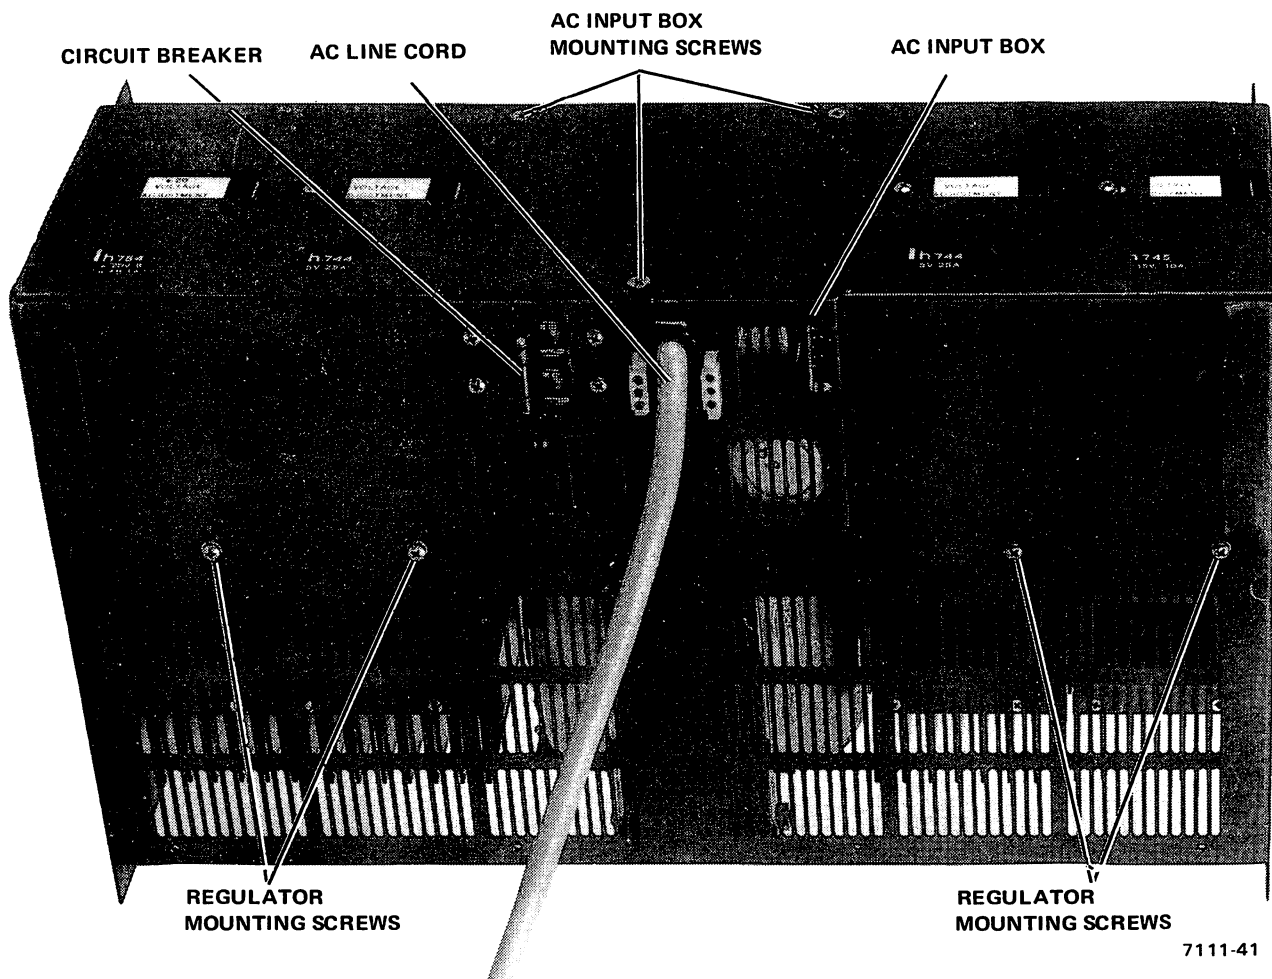

Figure 4-6 H765 Power System
4. Disconnect all the Mate-N-Loks connected to the front and back of the ac input box (Figure 4-6).
6. Remove three screws and slide out the ac input box (Figure 4-6).